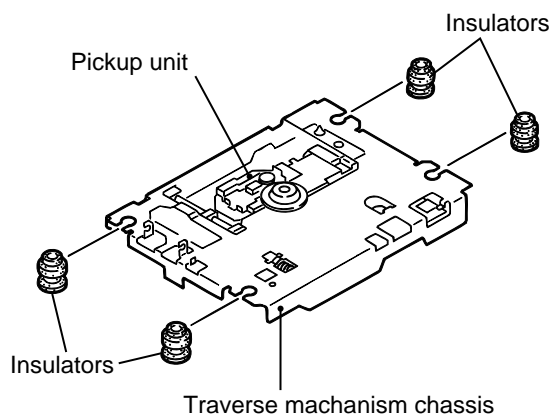

Fig.16
■ Removing the Insulators (See Fig.16)